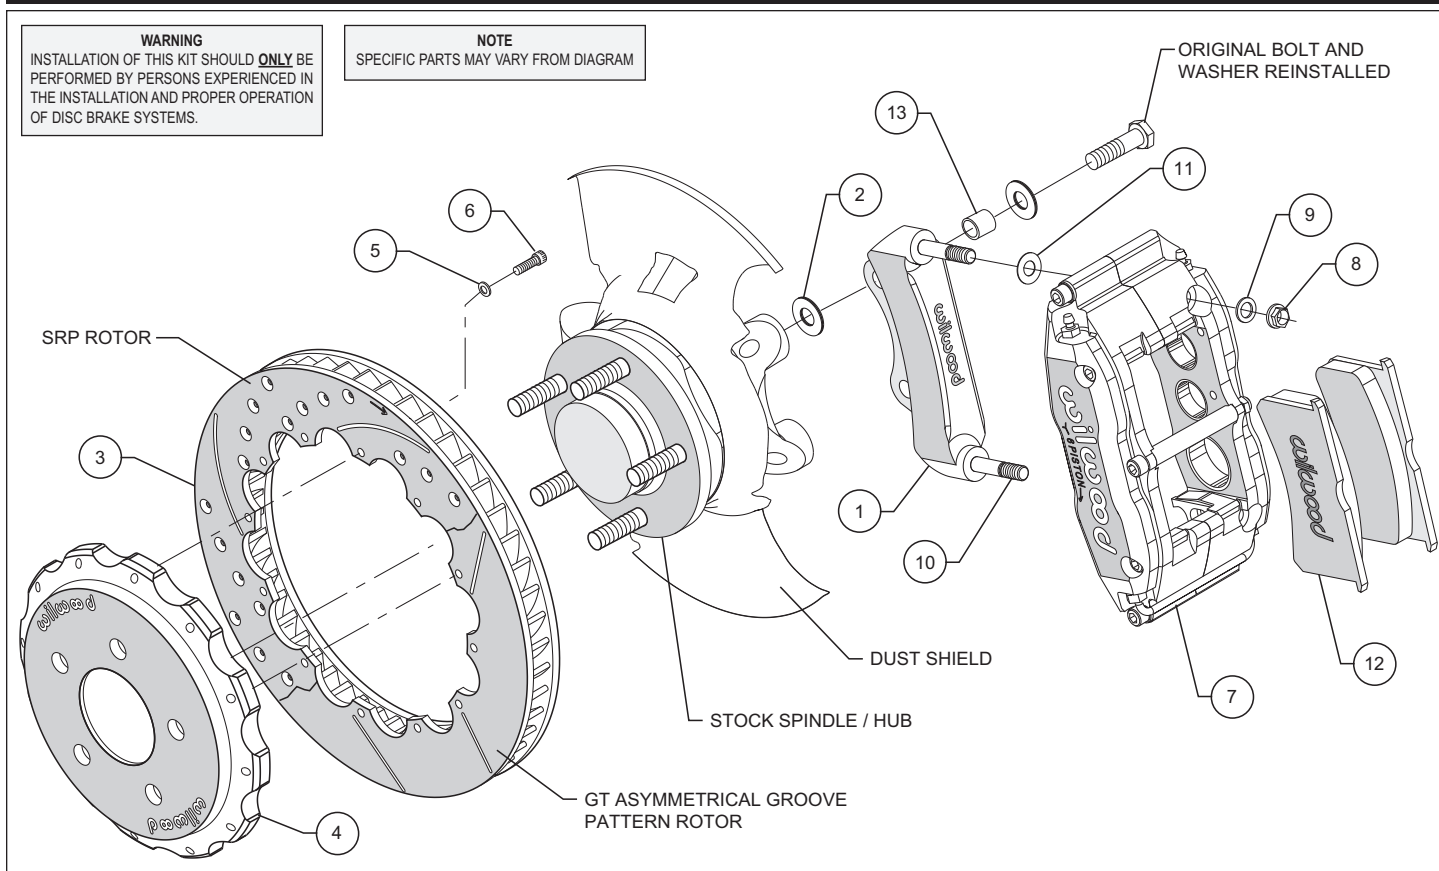

Figure 1. Typical Installation Configuration
- The caliper mounting bracket assembly (1) should be installed first with clean, dry threads on the mounting bolts. Install the bracket from the rear side of the spindle by sliding the original stock bolts through washer, sleeve (13) (sleeve only utilized on 2004 model year), and bracket (1). Place shim washer (2) between the bracket (1) and the spindle (see Figure 1). The bracket must tighten squarely against the side of the spindle body. Inspect for interference from casting irregularities, machining ridges, burrs, etc. Use one thin shim (2) between the bracket (1) and spindle during initial trial fitting.